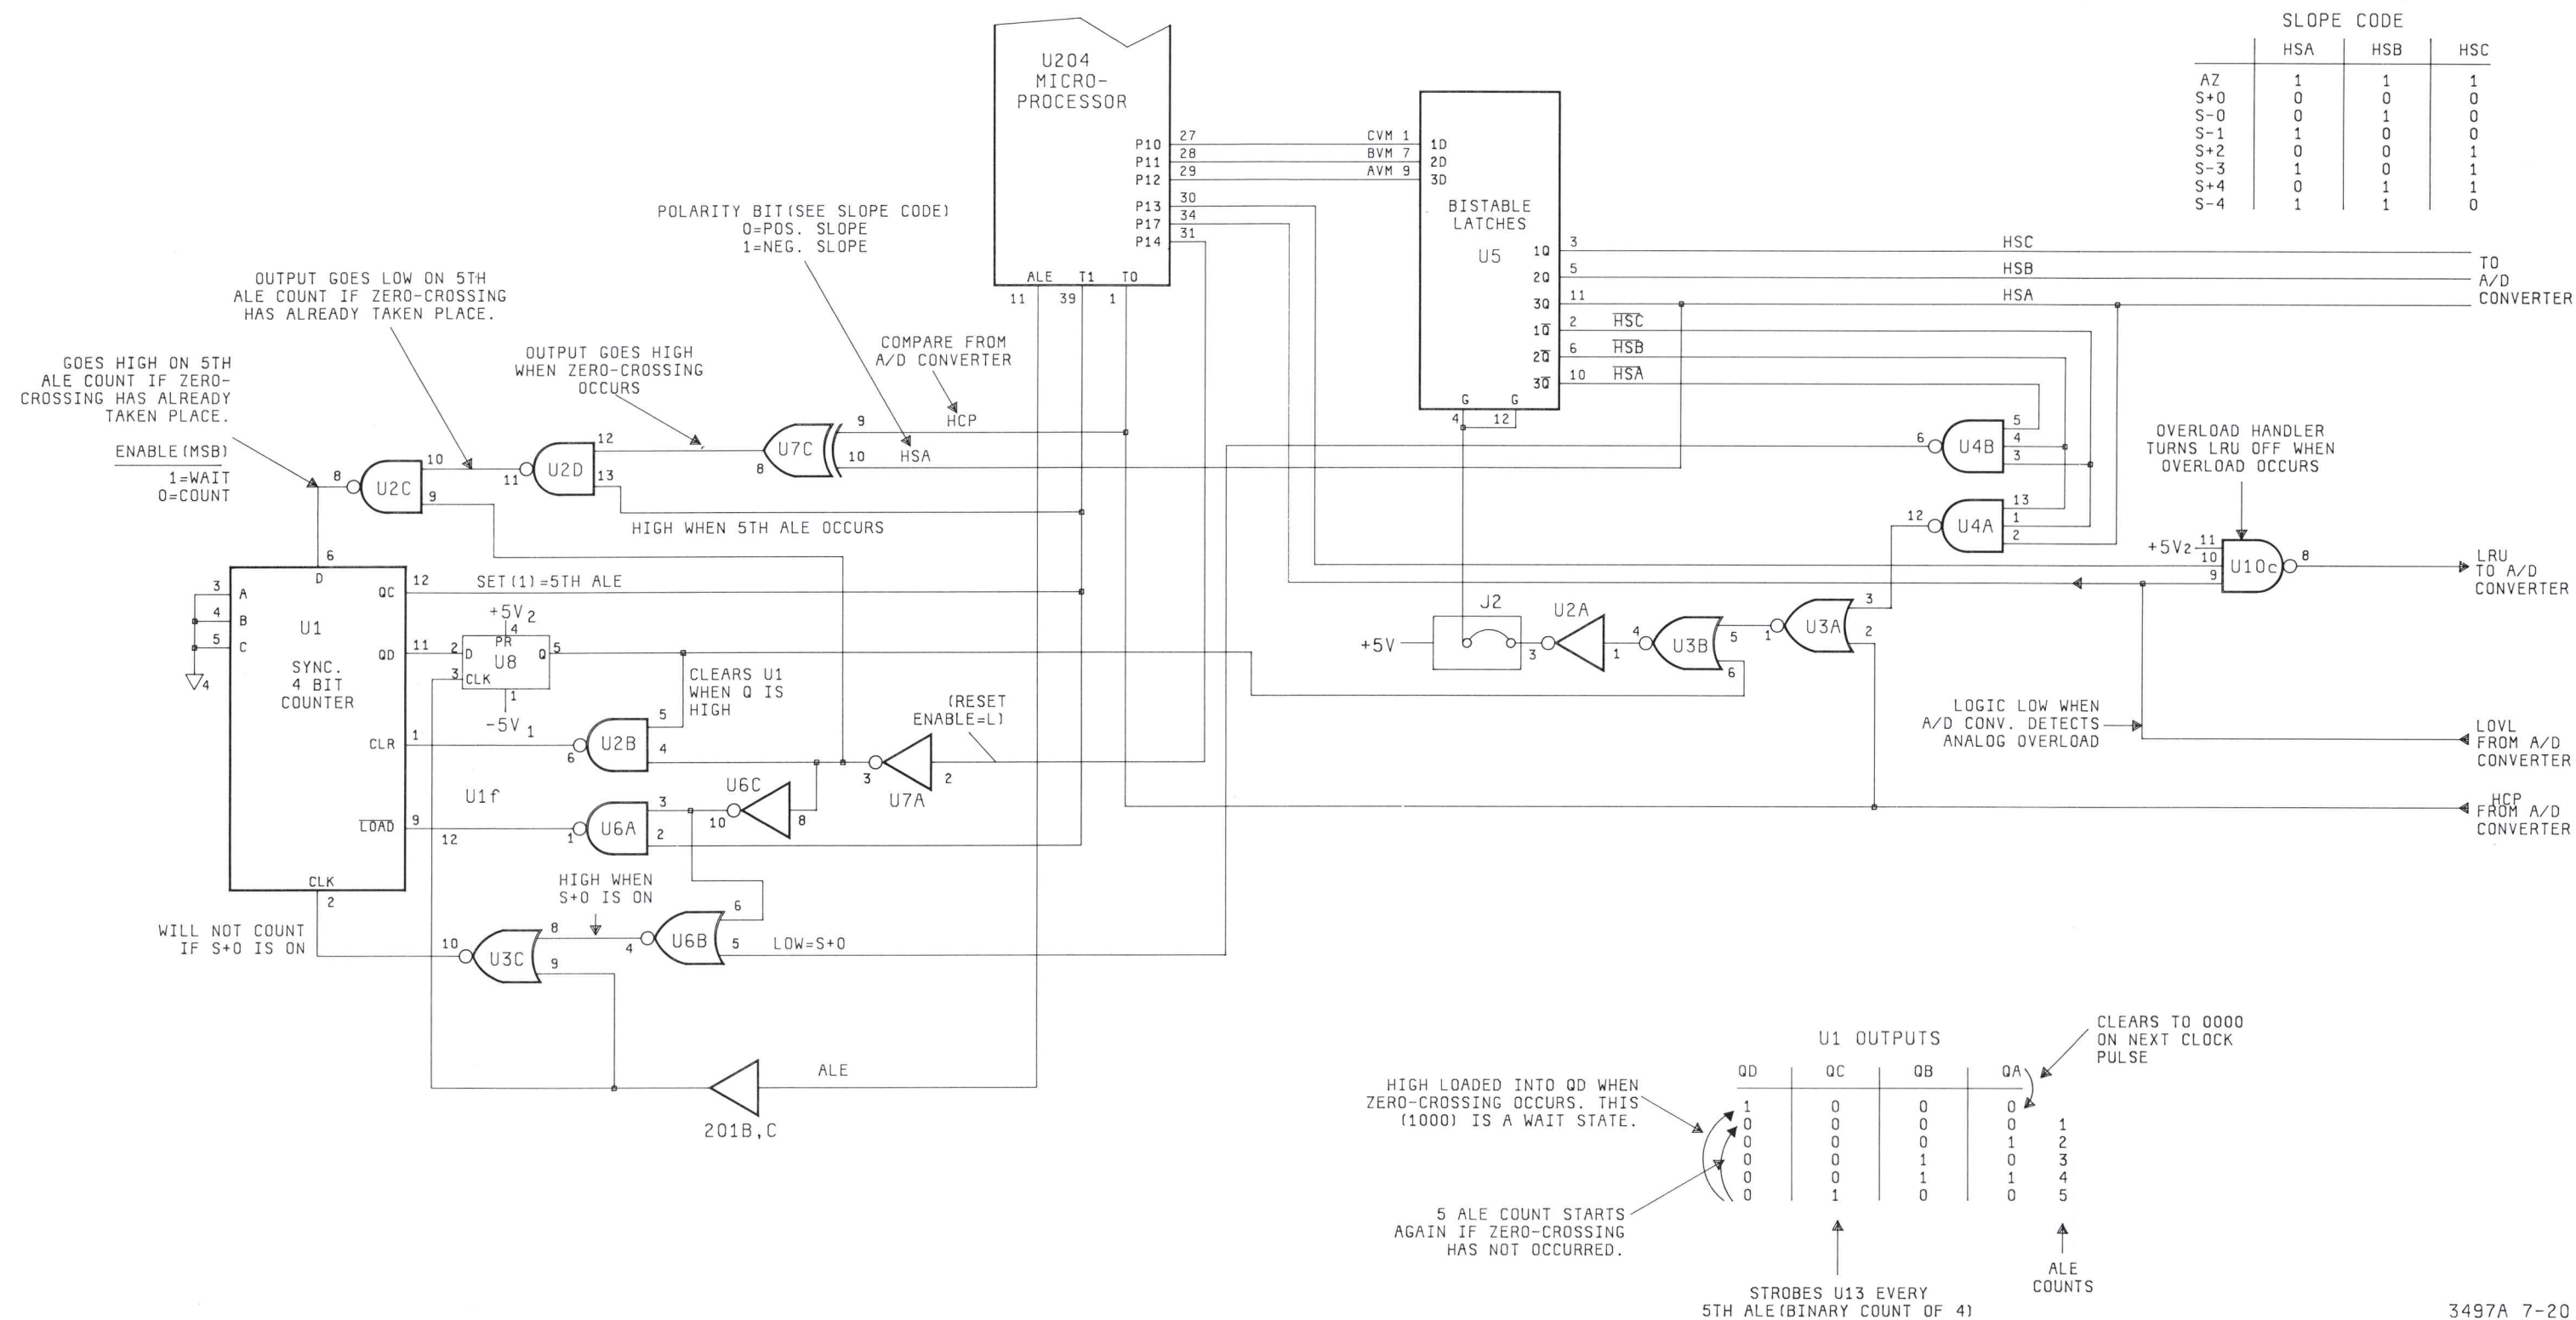

Figure 7-20. A/D Logic and Associated Circuitry
7-187. To understand the operation of the A/D logic, the voltmeter option's A/D converter operation needs to be known. Read paragraph 7-157 before reading the following explanation. Refer to Figure 7-20 and Schematics B1 and B2 for the following explanation on the A/D logic operation and circuitry.
(after going through latch U5) become the HSA, HSB, and HSC lines, respectively. The correct state of the HSA, HSB, and HSC lines to select the different currents is given in Figure 7-20.
b. After the S+0 slope, an S-4 current is always selected. At this time, 4-bit counter U1 is enabled by the inguard processor. The counter then starts incrementing during each ALE cycle. When the counter is clocked by the ALE clock five times, it sets its QC output high (see U1 outputs in Figure 7-20). This high strobes the internal counter of the inguard processor and lets the processor know that one A/D count is completed.
d. If zero crossing was detected, the applied current is removed and a no current condition, S+0, is selected for a certain time. At this time, the QD output of counter U1 goes high (see U1 outputs in Figure 7-20) and the counter is placed in a wait state. This state remains until the S+0 period is completed. The same takes place for any S+0 condition in rundown. Zero crossing usually occurs during an A/D count rather than at the end of one. Because of this, the applied current is removed not when zero crossing occurs, but when the A/D count is completed. Counter U1 keeps on incrementing, after zero crossing, until the five ALE cycles (i.e., one A/D count) is completed.
7-195. A/D Logic Circuitry Operation during Rundown. The following paragraphs explain the A/D logic circuitry operation during rundown. Refer to Figure 7-20, and Schematics B1 and B2 for the explanation.